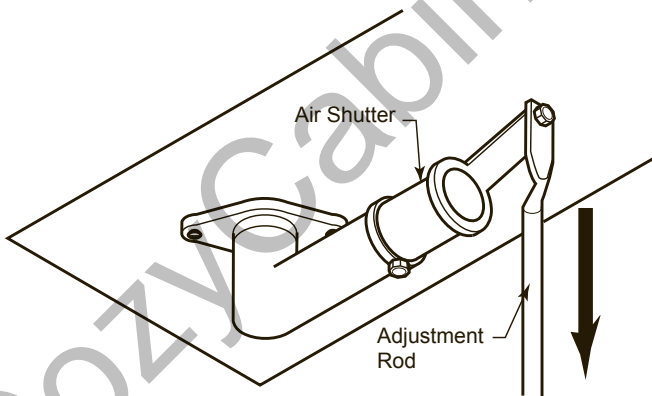

Figure 38 -
- To decrease air mixture, push up the adjustment rod located beneath the stove. This closes the shutter. Flames will be more yellow. *Figure 38*